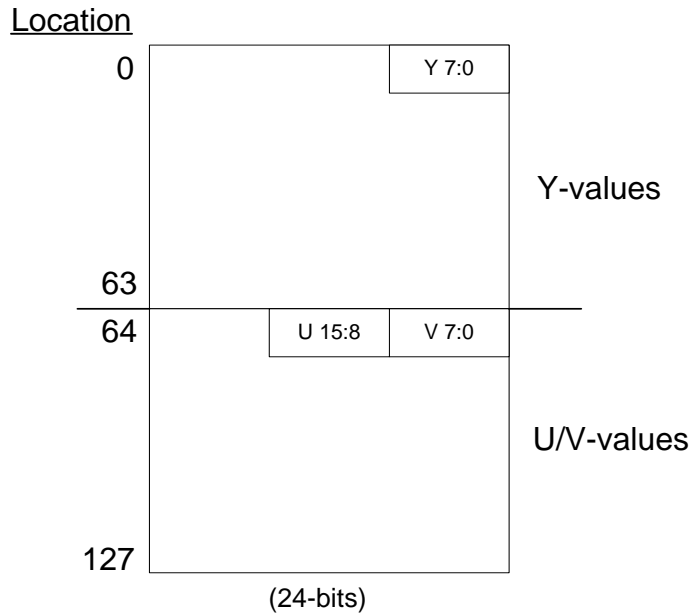

Figure 7. Quantization Table
- ❑ Initialize the inverse quantization table by loading the values into MD0F (these values are embedded in the JPEG image and must be extracted by system software). The quantization table resides in the MV SRAM, which contains 128 locations, each of which is 24 bits. The quantization table contains 64 Y values and 64 U/V values (see Figure 7 below).